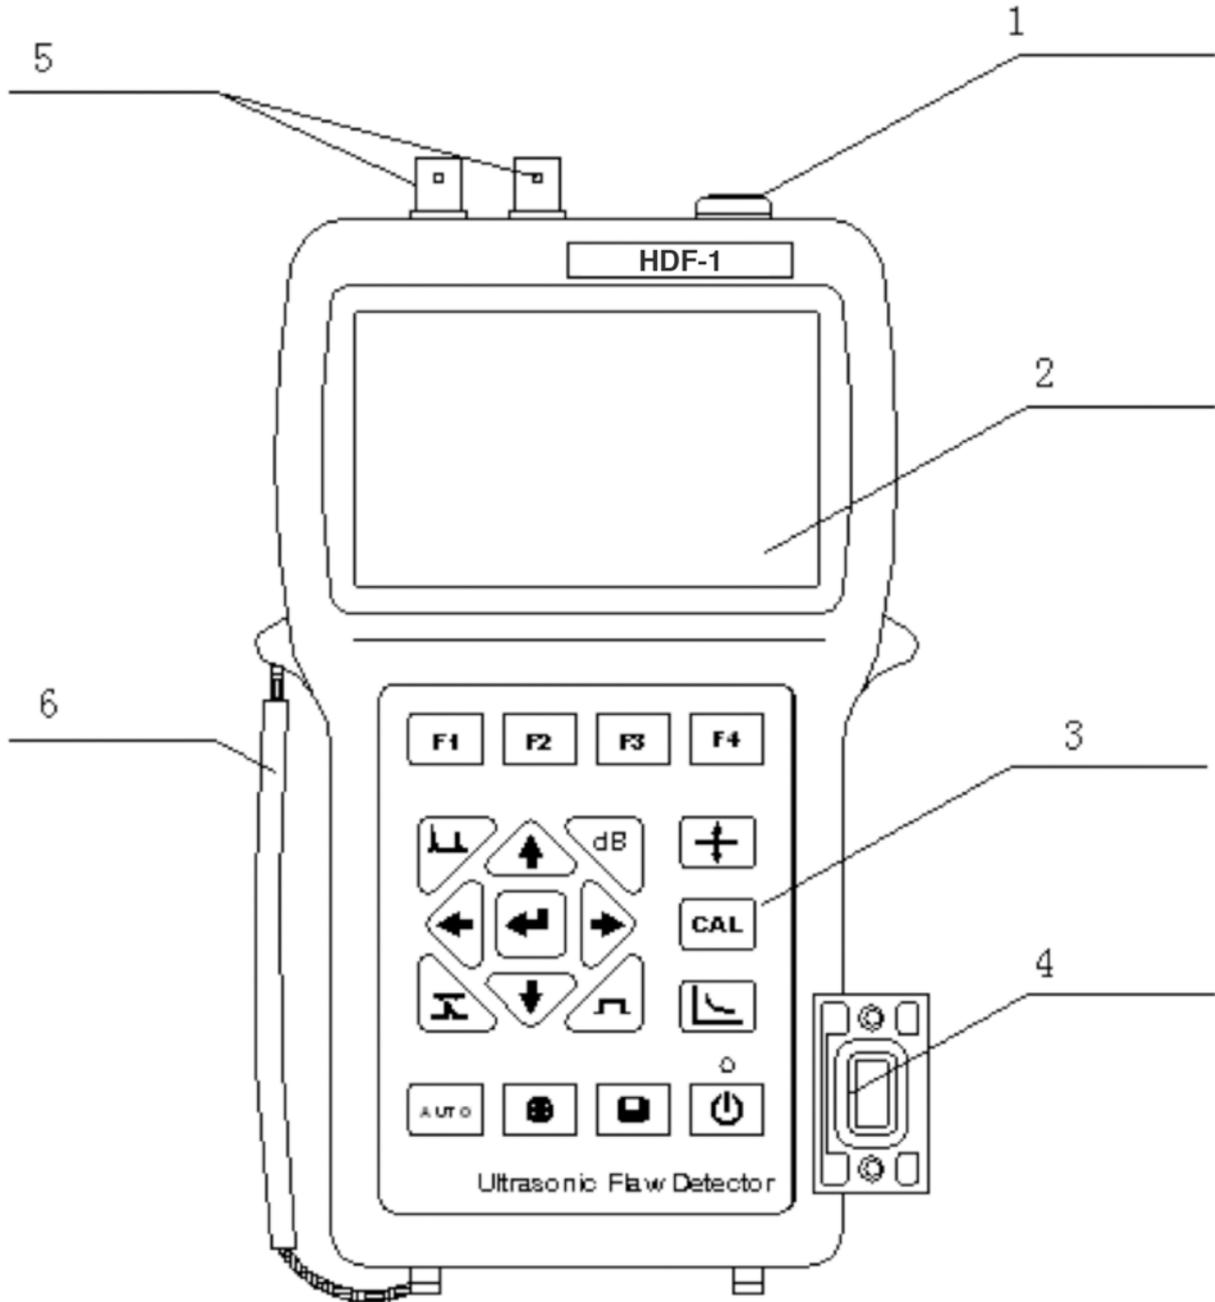

Figure 1.
A. Front Panel shown below (Figure 1):